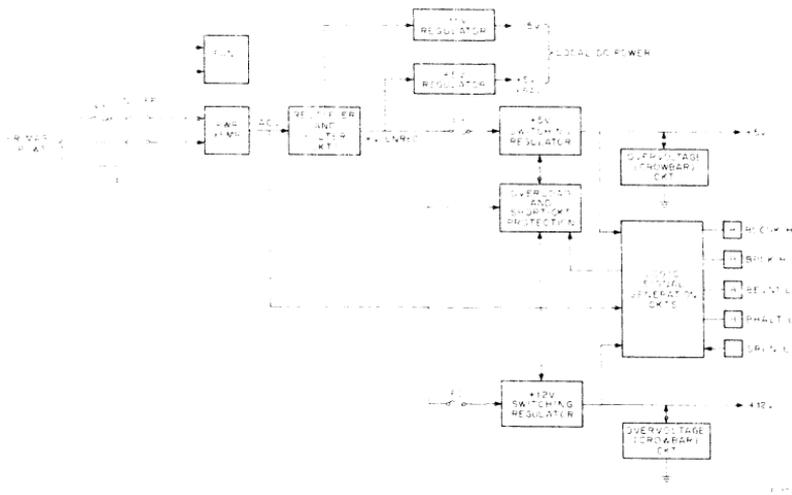

Figure 4-36 H780 Power Supply Block Diagram
**4.6.3.1 General** – Figure 4-36 is a block diagram of the H780 power supply. AC line voltage is applied to the two cooling fans and to the power transformer. The transformer has dual primary windings to meet U.S. and European power requirements. A single secondary winding generates a stepped-down ac voltage which is rectified and filtered to produce 26 Vdc (nominal) unregulated. The unregulated 26 Vdc is applied to two 3-terminal regulators which produce  $-15\text{ V}$  and  $+5\text{ V}$  for the H780 internal circuits. Unregulated 26 Vdc is also applied to  $+5\text{ V}$  and  $+12\text{ V}$  high-frequency, high-efficiency switching regulators. The outputs of the  $+5\text{ V}$  and  $+12\text{ V}$  switching regulators supply operating power to the backplane. Each switching regulator circuit is designed for good frequency stability, high noise rejection levels, and excellent load and line regulation. An L-C output filter and a fast-recovery diode are used in each switching regulator circuit. The  $+5\text{ V}$  switching regulator operates at a frequency from 7 kHz to 12 kHz, while the  $+12\text{ V}$  switching regulator operates from 8 kHz to 14 kHz. Both switching regulator circuits are protected from overvoltage, overcurrent, and short-circuit outputs. In addition, failsafe short-circuit startup is provided, along with